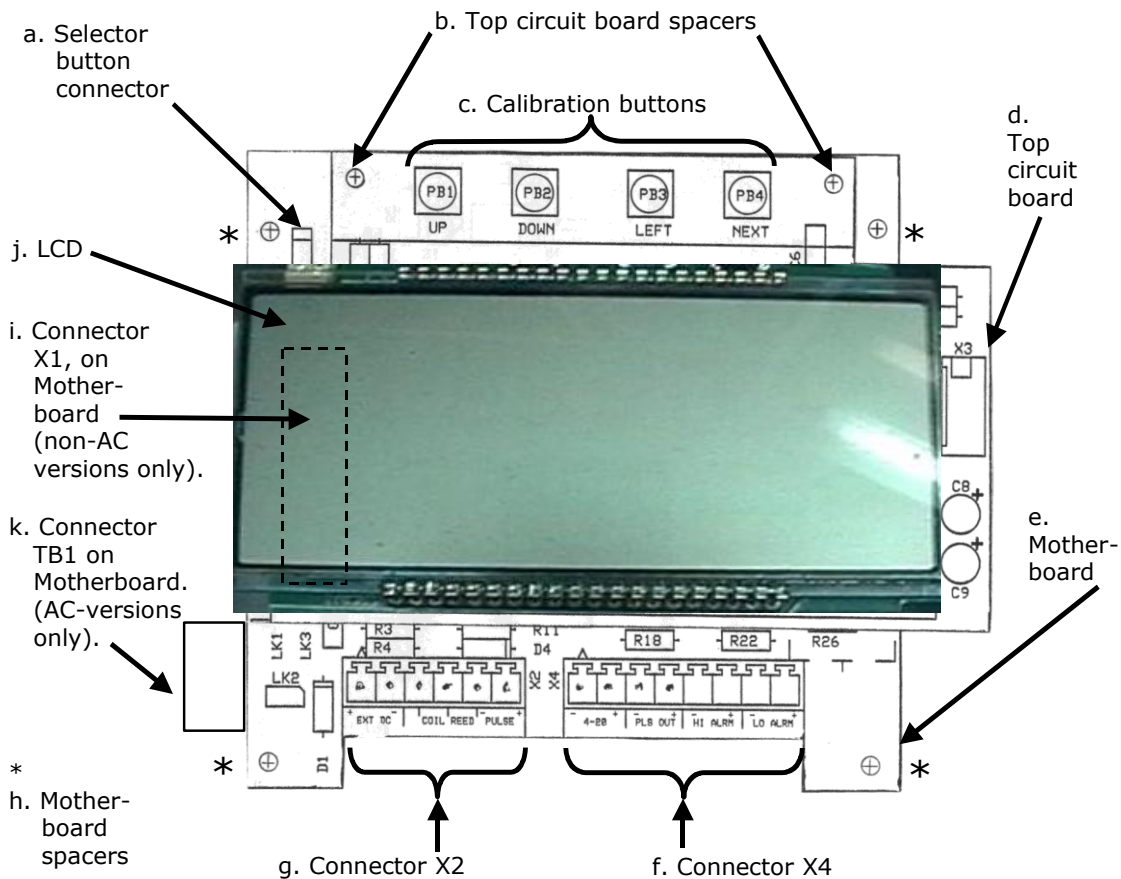
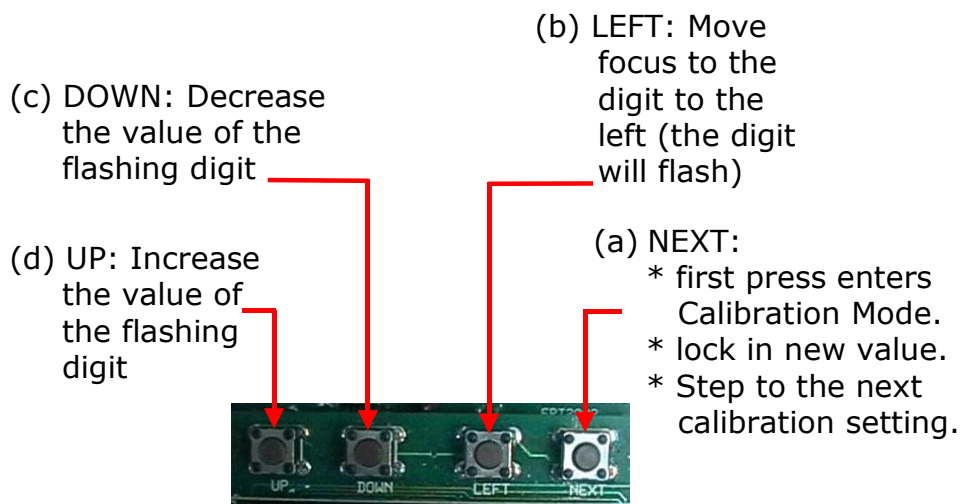
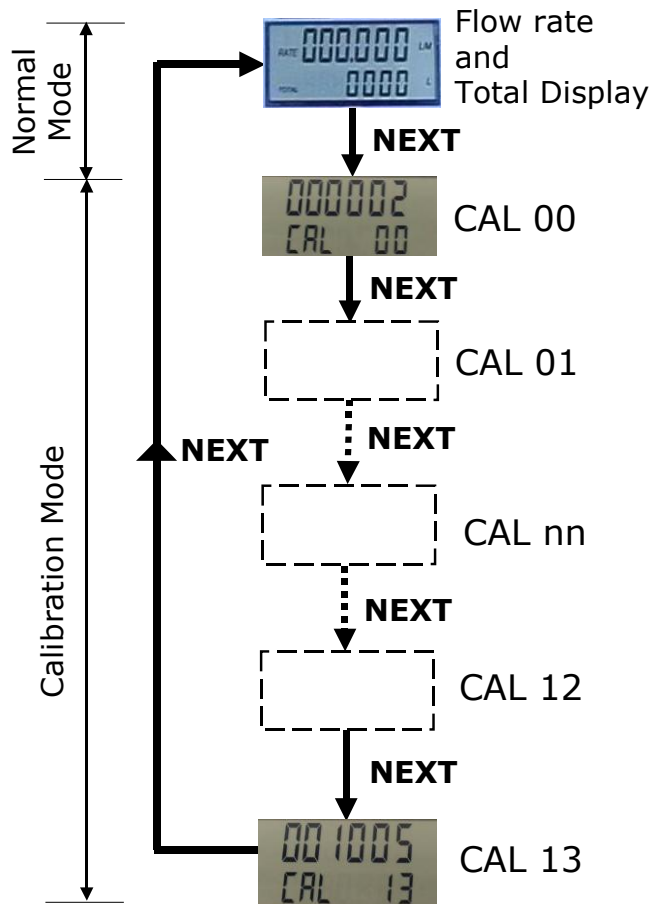

Figure 4. FRT303 Internal view of FRT303.
Figure 12. Internal Buttons to change calibration settings.
Figure 13. NEXT button cycles through the calibration settings.
Figure 4 below shows the FRT303 with the lid removed. Note the position of connectors TB1 (AC version only), X1 (non-AC versions only), X2 and X4 which are for power, input and output connections.
The location of connector TB1 is shown at Figure 4-k on page 6.
The location of connector X2 is shown at Figure 4-g on page 6.
**Using the buttons (see Figure 12 and Table 3 on page 12) on the top circuit board internal to the FRT303 (Figure 4-c on page 6):**
NEXT (Figure 12–a)	<ul style="list-style-type: none"> <li>Steps through the calibration settings, as shown in Figure 13 on page 13. On first press, enters Calibration Mode.</li> <li>Locks in the value after a calibration setting has been modified (there will no longer be a digit blinking).</li> </ul>
LEFT (1) (Figure 12–b)	<ul style="list-style-type: none"> <li>Selects the digit to change in a calibration value, by cycling right to left through the digits.</li> <li>Moves focus to the digit to the left and causes the selected digit to blink (on first press, causes the right most digit of the calibration value to blink).</li> </ul>
DOWN (1) (Figure 12–c)	<ul style="list-style-type: none"> <li>Decreases the value of the selected digit (the digit that is blinking).</li> </ul>
UP (1) (Figure 12–d)	<ul style="list-style-type: none"> <li>Increases the value of the selected digit (the digit that is blinking).</li> </ul>
Figure 13 below shows how successive presses of the NEXT button will cycle through the calibration settings.
then the K-factor is in pulses/Litre to 4 decimal places, so '100000' is 10.0000 pulses/Litre. A 1% increase is 0.1 pulses/Litre, so use the buttons shown in Figure 12 on page 12 to change CAL 03 to '101000' to represent 10.1000 pulses/Litre.